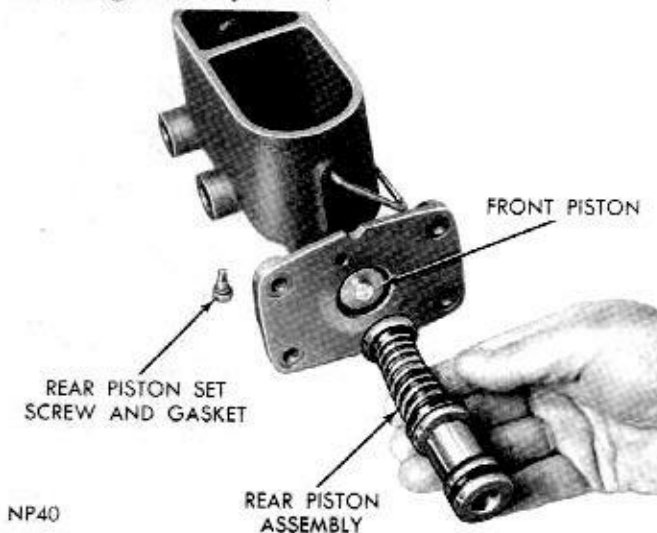

Fig. 6—Installing Rear Piston Assembly
(2) Center spring retainer of rear piston assembly over shoulder of front piston. Push piston assemblies into bore. Carefully work lips of cups into bore, then seat piston assemblies (Fig. 6).
(3) Holding pistons in seated position, install piston retaining screw and gasket. Tighten securely (Fig. 6).